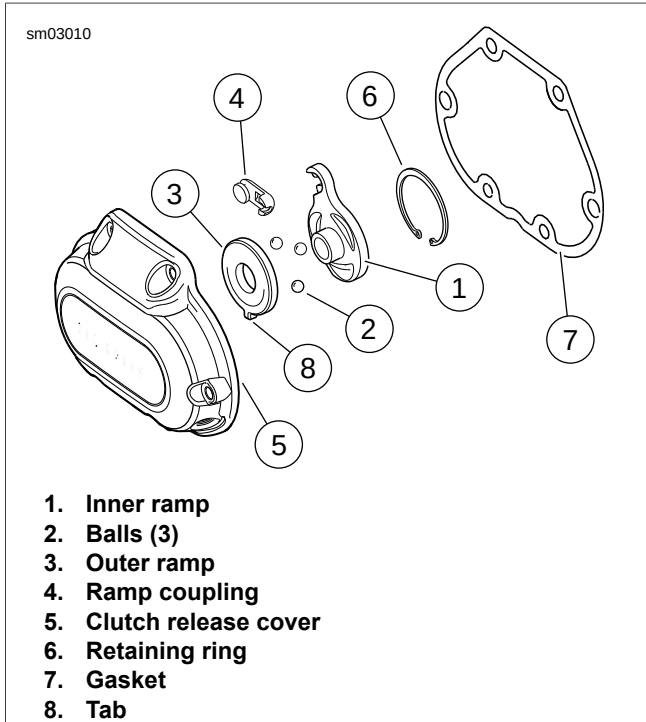

Figure 6-7. Release Mechanism Assembly
1. See Figure 6-7. Wash the ball and ramp mechanism components in cleaning solvent.
2. Inspect the three balls (2) and ball socket surfaces on ramps (1, 3) for wear, pitting, surface breakdown and other damage. Replace as necessary.
3. Check fit of the ramp coupling (4) on inner ramp (1). Replace both parts if there is excessive wear.
4. Inspect the retaining ring (6) for damage or distortion.
6. Check the bore in the clutch release cover (5) where the ramps (1, 3) are retained. There should be no wear that would cause the ramps to tilt, causing improper clutch adjustment.
2. See Figure 6-7. Place outer ramp (3) with ball socket side up in clutch release cover. Be sure tab (8) is in clutch release cover slot.
3. Apply a multi-purpose grease to the balls (2) and outer ramp sockets. Place a ball in each of the outer ramp sockets.
4. Connect cable end to ramp coupling (4). Install coupling on inner ramp (1) and place inner ramp and coupling in position in clutch release cover (5).
5. Figure 6-7. Install retaining ring (6).
6. Verify that two dowel pins are in place on transmission bearing housing flange. Place a **new** gasket (7) on dowel pins.